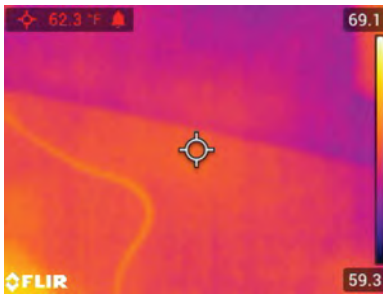

Figure 8.4 High Temperature Alarm example. Note that the reading is red in color
4. When the High or the Low Alarm is enabled, the main display will show the alarm bell icon next to the measurement digits as shown in **Figure 8-4** below.